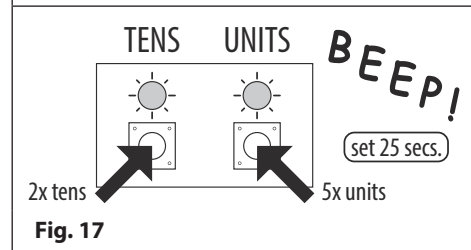

Fig. 17
2. Use the tens and units buttons to set the relay time, e.g. to set the relay time to 25 press the tens buttons twice and the units button 5 times (listen for the confirmation beep each time the button is pressed and observe the yellow tens/units LED's as they should flash each time that each button is pressed), see **Fig.17**.